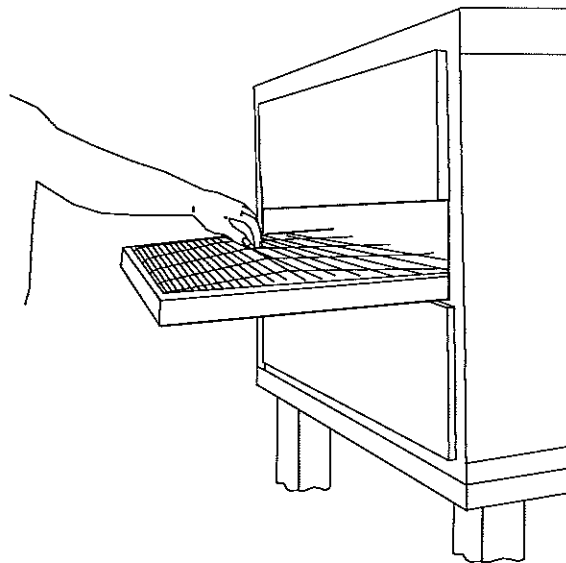

Figure 4-23.
2. Adjust conveyor belt tension screws (located on left end of oven) for the 3" to 4" (75mm to 102mm) deflection, as shown in Figure 4-23. If there is proper tension, proceed directly to "H. Attaching Drive Chain". If belt is still loose, continue to step 3 below.